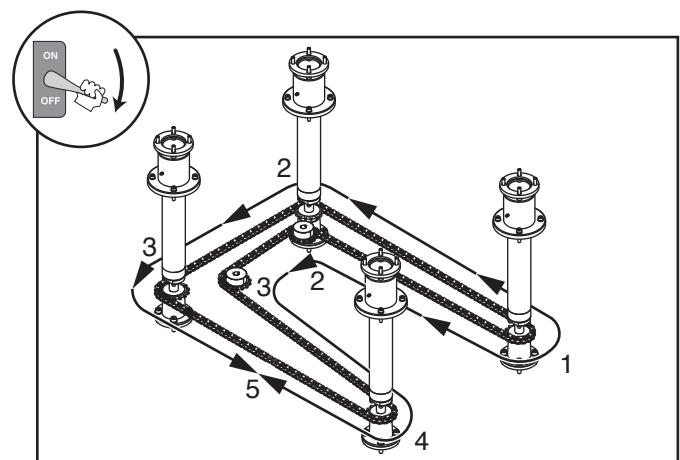

Figure 87. Elevation chain installation sequence.
8. Wrap center of chain around sprocket 1, then follow installation sequence illustrated in **Figure 87**.
9. Connect ends of chain between two front columns (location of 5 in **Figure 87**) in the installation sequence, using connecting link removed in **Step 7**.